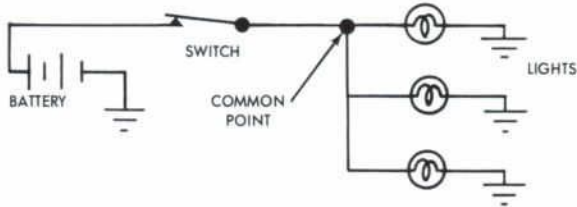

Fig. 4 — Multiple Unit Circuit
- If the fault affects all the units in a multiple-unit circuit, start the test at the point where the circuit gets its power (Fig. 4).
An example of this procedure is found in the light circuit. If only one bulb in the circuit will not operate (Fig. 4), start checking at the light bulb and check back along each part of the circuit until the defective element is found. If all the lights in a circuit do not operate, start checking at the point where the power is first intro-